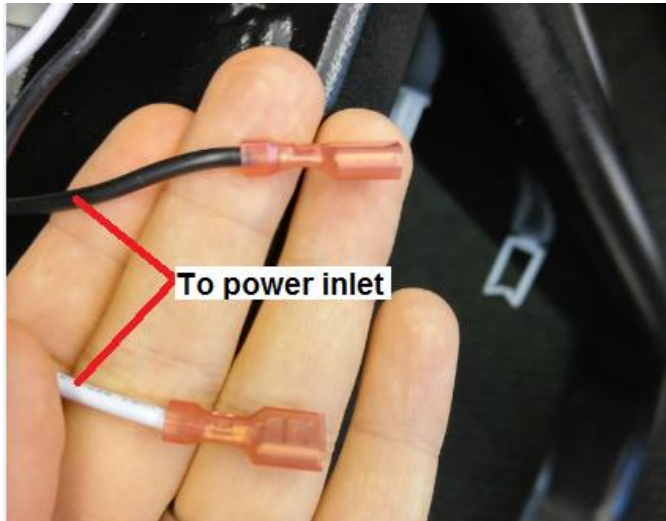

Fig. 2
3. Cut the terminal off of the black wire coming from the power inlet, then using a pair of wire strippers, strip ½" of wire shielding off of the wire and twist the wire core to form a bundled strand (Fig. 2+2.1). Repeat this process for the white wire coming from the power inlet as well.